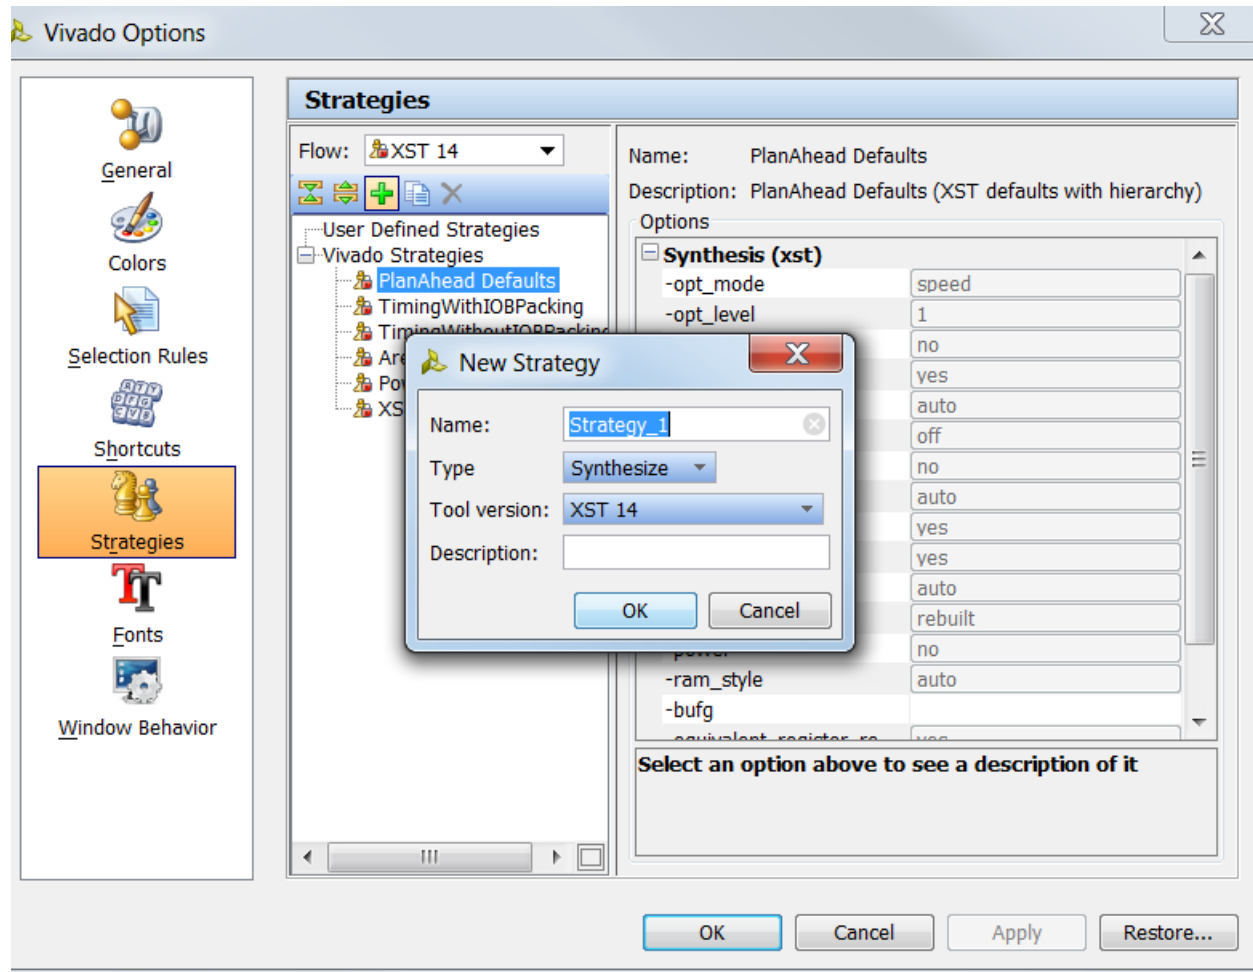

Figure 5: New Strategy Dialog Box
- Click the **Create New Strategy** button  under the flow options to open the New Strategy dialog box, as shown in Figure 5.